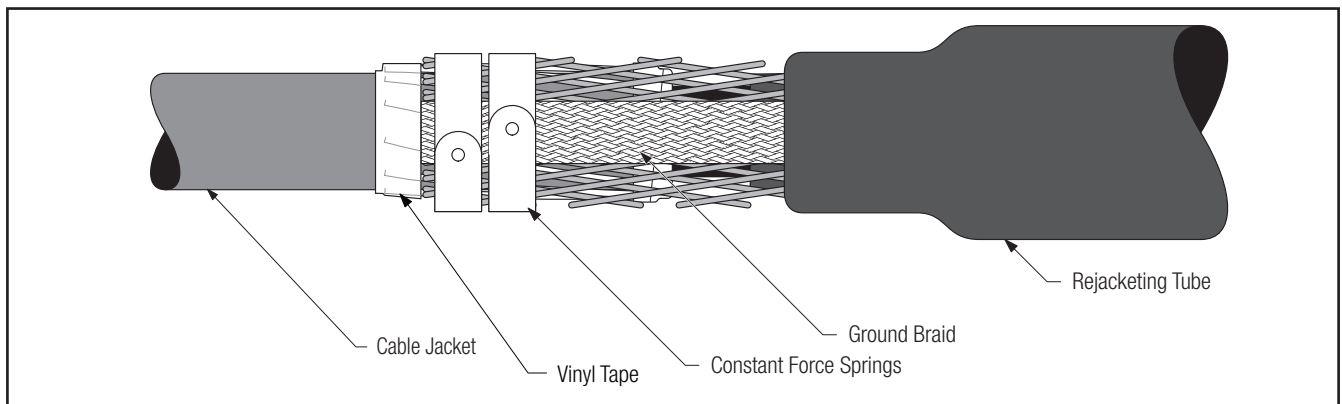

Figure 16
- 5.2 Hand-tighten the shield sleeve outward and secure it (along with the ground braid if not grounding externally) to the neutral wires on either side of the splice using two constant force springs on each end between the vinyl tape at the jacket edge and the vinyl tape as shown (*Figure 16*).
- 5.3 If shield sleeve extends beyond neutral wires, it may be interwoven with the constant force springs. Trim excess ground braid if needed. Cinch (tighten) the spring after wrapping the final winding (*Figure 16*).